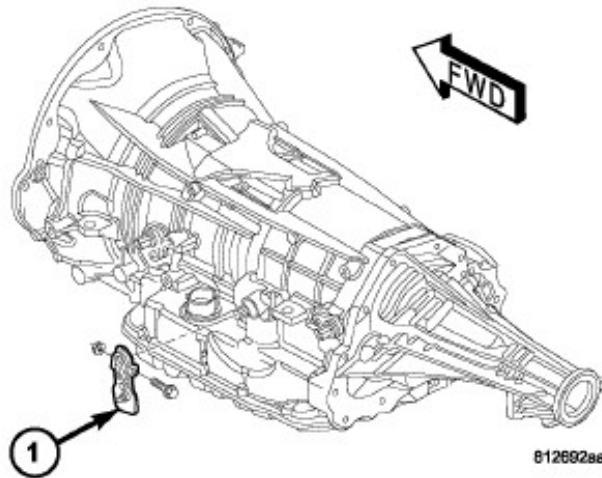

Fig. 2
3. Remove the manual shift lever from the transmission and **DISCARD** the manual shift lever bolt Fig. 2.